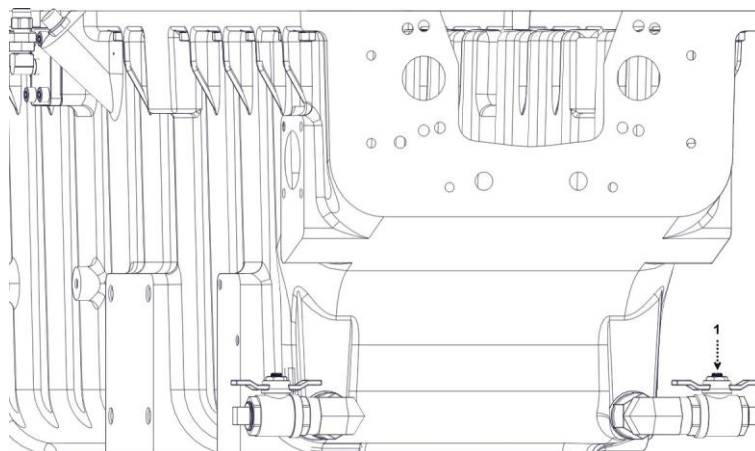

Figure 159. Oil Drain Valve
2. Attach a collection hose to the fitting (Figure 159). Drain the oil into a suitable container. When the oil has completely drained, close the valve, remove the hose and reinstall the dust cap. Dispose of the drained oil in accordance with environmental regulations.